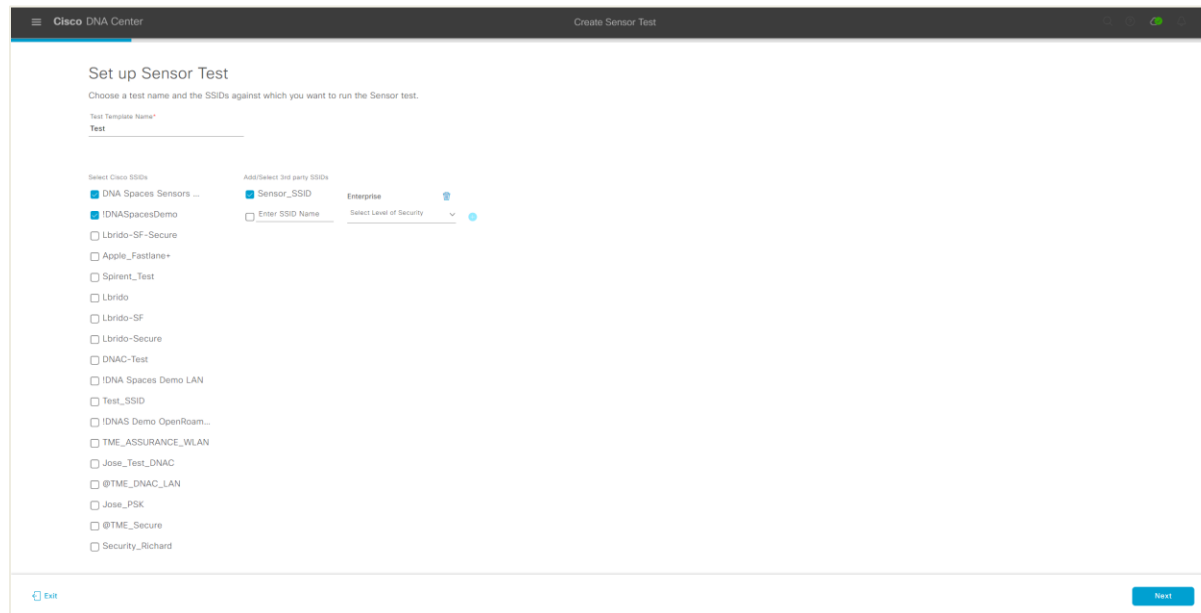

Figure 66.
- Enter a template name and choose Cisco SSIDs from the prepopulated list on the left, or add third-party SSIDs and select the corresponding level of security (**Figure 66**).